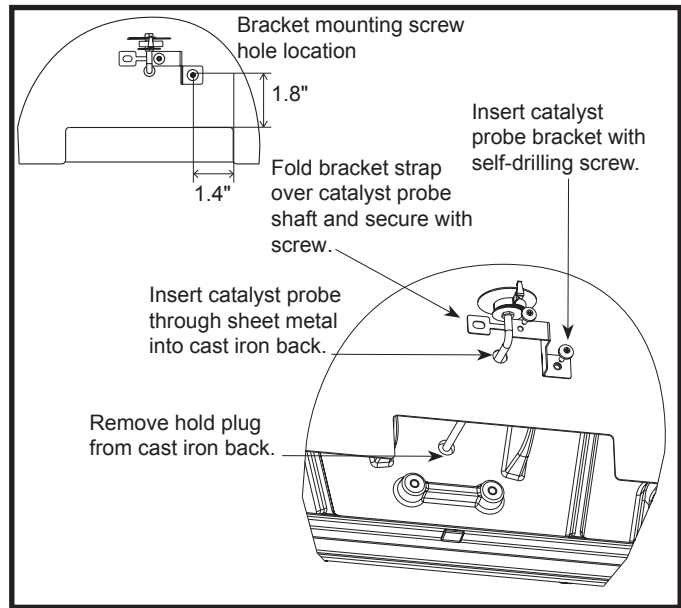

Fig. 24 Install the Catalyst Temperature Probe
To install the catalyst temperature probe, remove the hole plug from the cast iron wall behind the rear shield as shown (Fig. 24) use two #10 sheetmetal screws and bracket supplied, secure the bracket and probe to the back of your stove. Fig. (24)